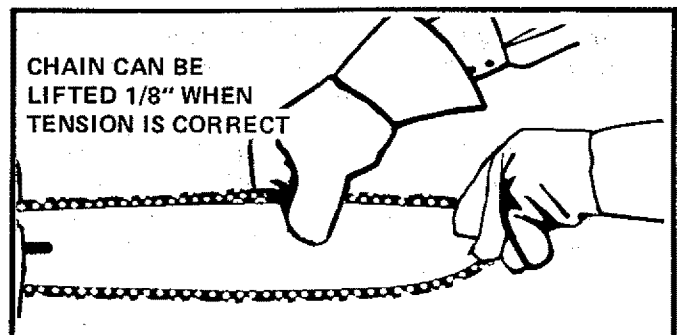

Figure 9
2. Check the tension by lifting the chain from the Guide Bar at the center of the bar. Figure 9.